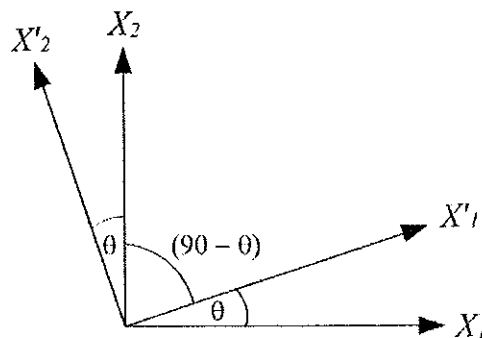

Figure Q6
- (i) Distance (Y) to the center of mass (G) from the top of the 'T' section. (5 marks)
- (ii) Second Moment of Area about X and Y axes going through the center of mass (G). (5 marks)
- Q6 (a) Derive an expression for the coordinate transformation matrix for  $X_i = (X_1, X_2, X_3)$  coordinate system with respect to the  $X'_i = (X'_1, X'_2, X'_3)$  coordinate system (see Figure Q6). (7 marks)